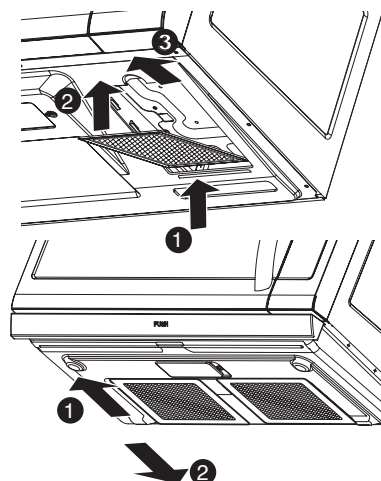

Figure 36
6. Grasp the filter screen with one hand holding the ring and the other hand holding the opposite end. Insert the end of the filter screen without ring into the opening and slide towards the side of the microwave oven. Insert ring end of filter screen into the opening and slide entire screen towards the center of the microwave until screen is securely in position. Repeat for other filter screen. See Figure 36.